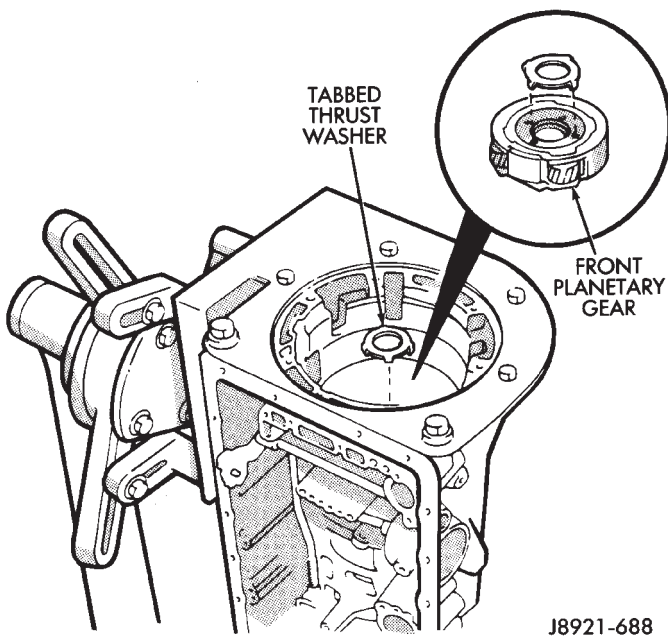

Fig. 21 Installing Planetary Thrust Race
(26) Install tabbed thrust race on front planetary gear (Fig. 21). Washer tabs face down and toward gear. Race outer diameter is 47.8 mm (1.882 in.). Inside diameter is 34.3 mm (1.350 in.).